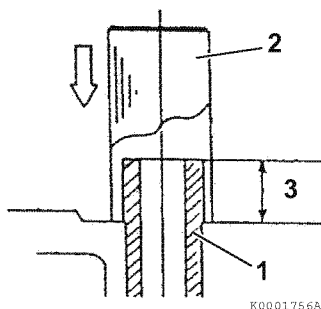

Figure 6-28
3. Finish installing the valve guides (**Figure 6-28, (1)**) into the cylinder head to the proper height (**Figure 6-28, (3)**) using the valve guide installation tool (**Figure 6-28, (2)**). See *Valve Guide Projection specification starting on page 6-4*.